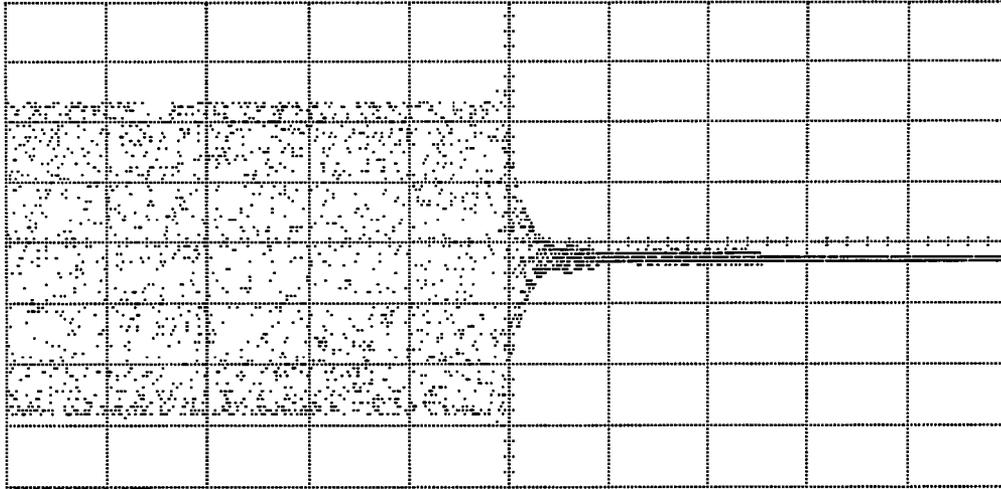

Figure 3-16. Pulse Fall Time Measurement
2. Adjust the synthesizer RF output level so that the upper half of the envelope spans 2.5 vertical graticules as in Figure 3-16.
3. Adjust the oscilloscope's horizontal DELAY and vertical OFFSET functions in order to position the falling edge of the pulsed RF so that the 10% and 90% points cross horizontal graticules. Refer to Figure 3-16.